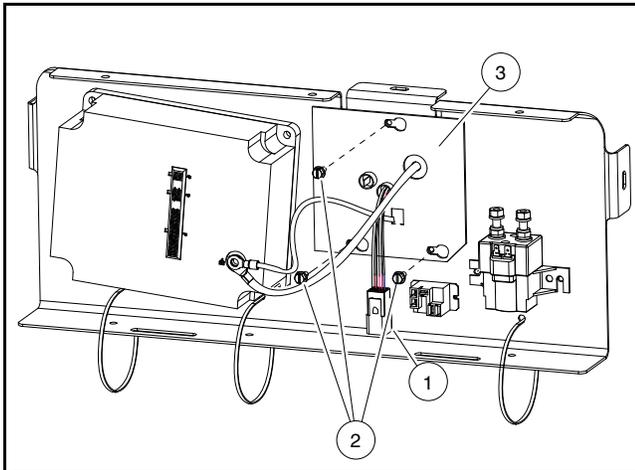

Figure 24-8 Onboard Computer
3. Unplug the six-pin connector (1) at the OBC (**Figure 24-8, Page 24-11**).
3. Install the OBC (3) onto the component mounting plate by aligning the three holes on the OBC face plate with three holes on component mounting plate. Slide OBC (3) towards inside of vehicle and align heads of self-tapping screws (2) with smaller part of three holes in OBC face plate (**Figure 24-8, Page 24-11**). Tighten screws to 60 in-lb (6.7 N·m). **See following NOTE.**
6. Connect the black 6-gauge wire and black 10-gauge wire to the speed controller B- terminal with the washer and bolt and tighten to 9 ft-lb (12.2 N·m) (**Figure 24-8, Page 24-11**).